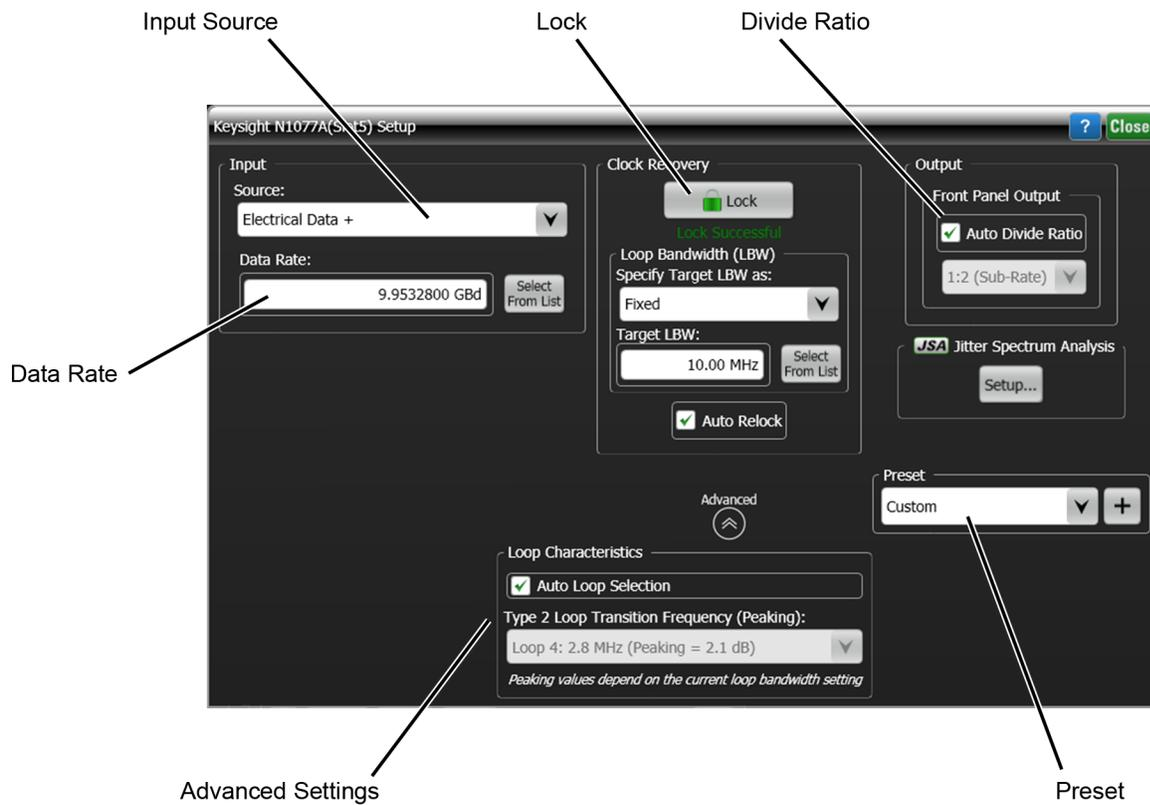

Figure 25. Clock Recovery Setup Dialog
6. Click **Setup** > **Modules** > **(Slot 6): Clock Recovery**. The dialog shown *Figure 25 on page 63* is displayed.